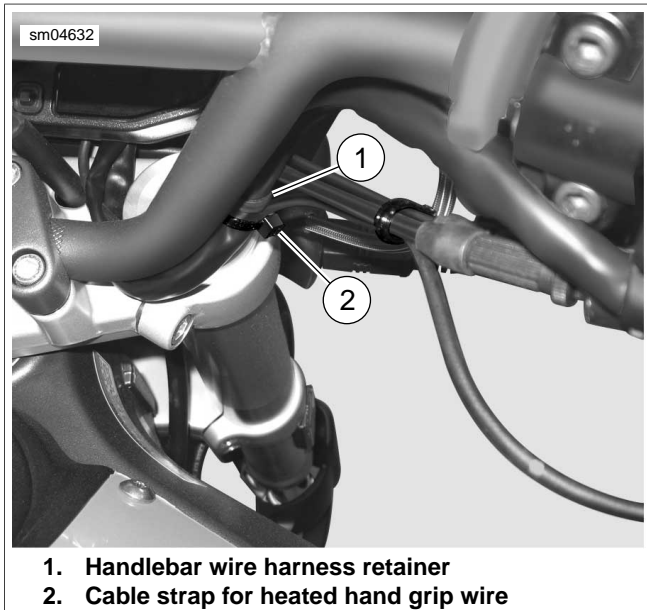

Figure 6-34. Location of Second Cable Strap, Right Side
3. See Figure 6-34. Install the next cable strap on the right side just below the second handle bar wire harness retainer.